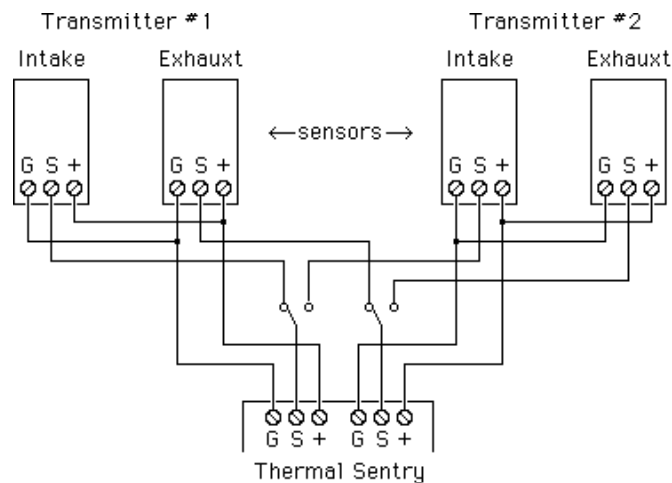

Figure 3.4; Connecting multiple pairs of sensors to a Thermal Sentry
Switching between sensor pairs can be done manually with a switch or automatically with a relay. The sensors draw very little power from the Thermal Sentry so power and ground (+ and G) on multiple sensors can be connected at all times. The sensor output (S) must be switched as shown in Figure 3.4. Up to 20 pairs of sensors can be powered by one Thermal Sentry. Extra pairs of sensors are available from Sine Systems or through your dealer as model TS-1/MP (formerly TS-2).